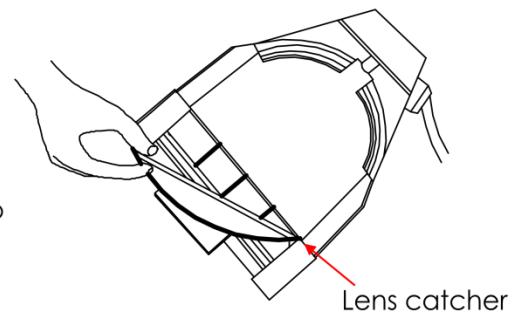

Fig. 08
- 05) Allow the lens to slide forward and rest upon the lens catchers (fig. 08).